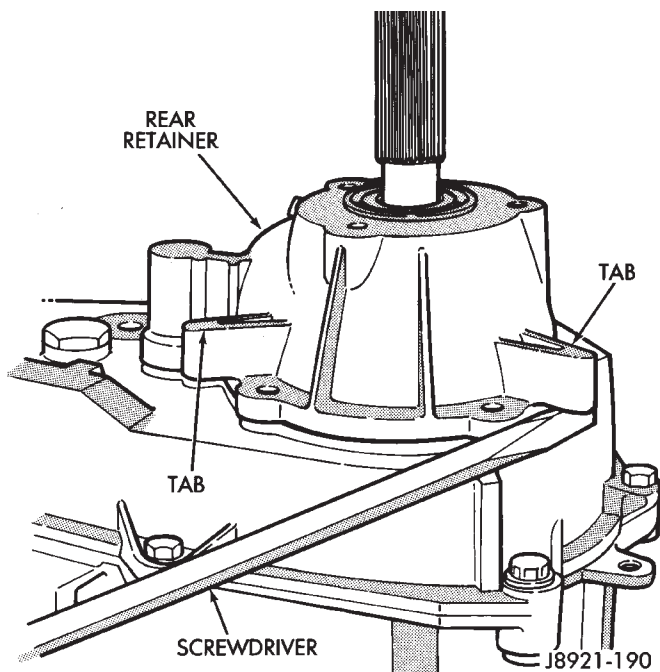

Fig. 3 Loosening Rear Retainer
(7) Remove rear retainer attaching bolts.
(8) Loosen rear retainer (Fig. 3). Position long screwdriver under each tab at ends of retainer housing and pry retainer upward.